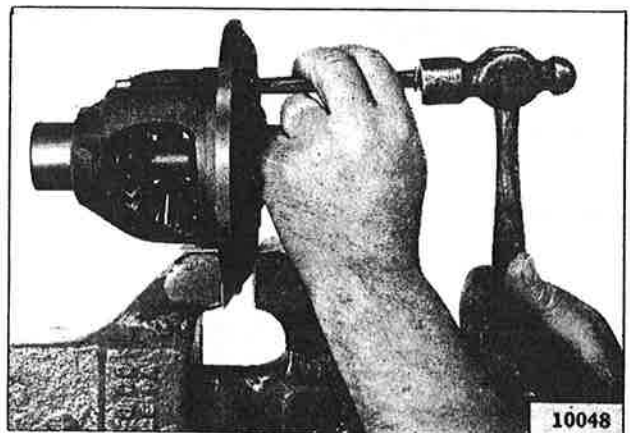

FIG. 241—REMOVING LOCK PIN
- f. The differential shaft is held in place by a lock pin. Use a small punch as shown in Fig. 241 to drive out the lock pin. Remove the differential shaft.